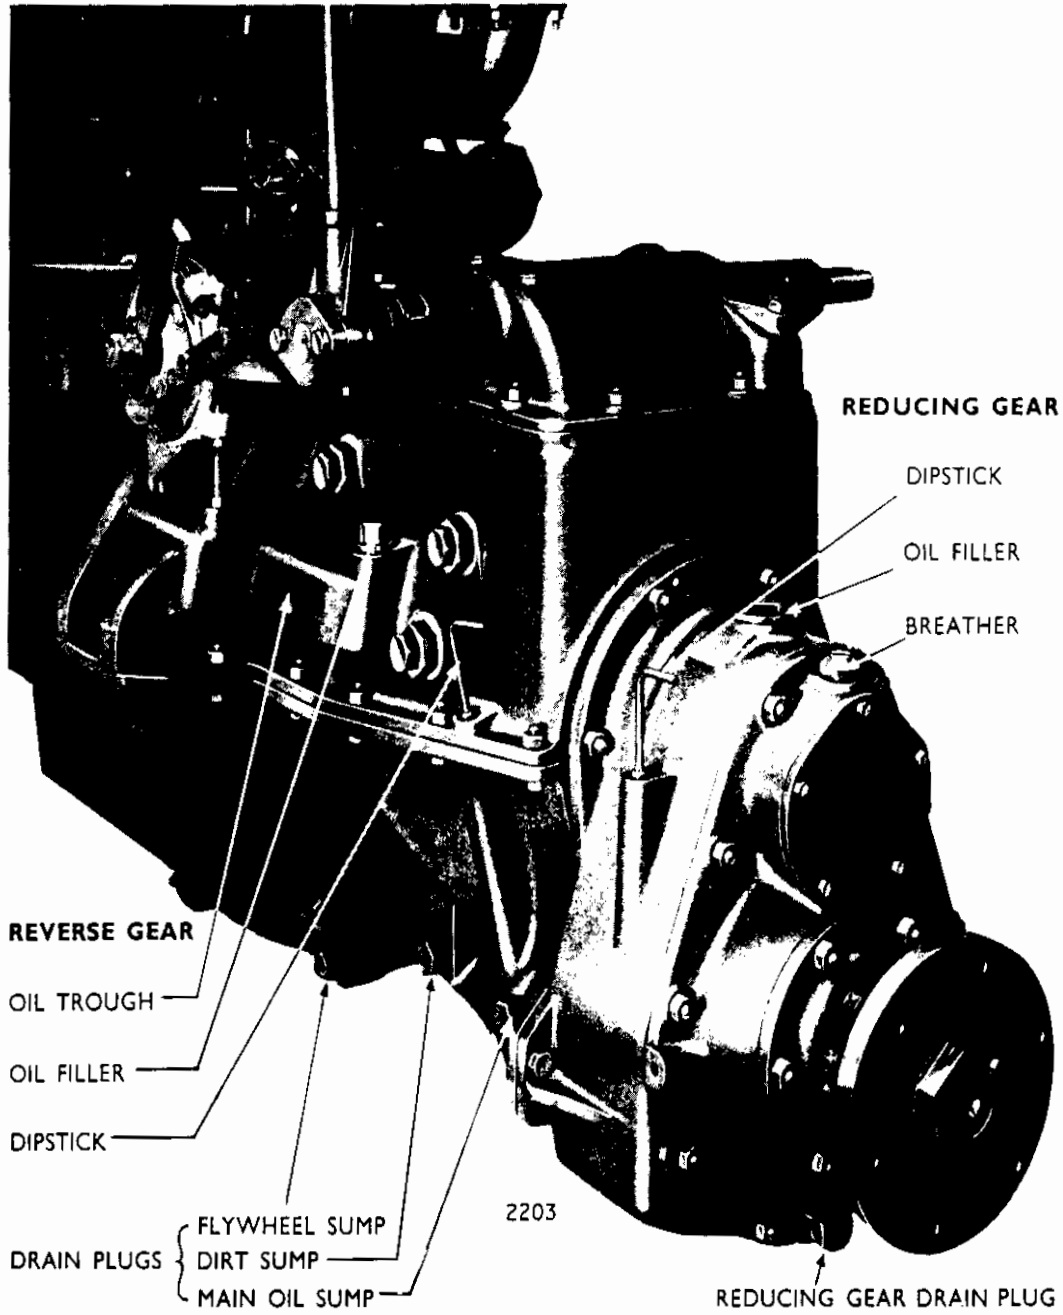

Fig. 1. Reversing and Reducing Gear Case Oil Filling and Draining Points
2. **Sump Filling: Reverse Gear.**—Before filling the oil sump for the first time, the three drain plugs must be removed to ensure that the three sumps are quite empty. (See Fig. 1.)